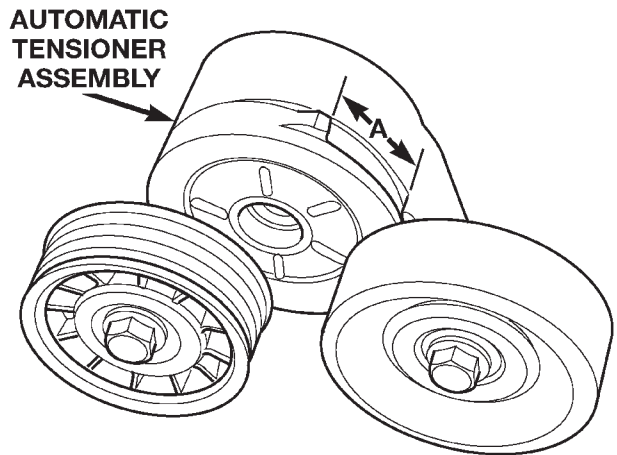

Fig. 58 Accessory Drive Belt Wear Indicator—4.7L Engine
- (3) With the drive belt installed, inspect the belt wear indicator (Fig. 58). The gap between the tang and the housing stop (measurement A) must not exceed 24 mm (.94 inches). If the measurement exceeds this specification replace the serpentine accessory drive belt.